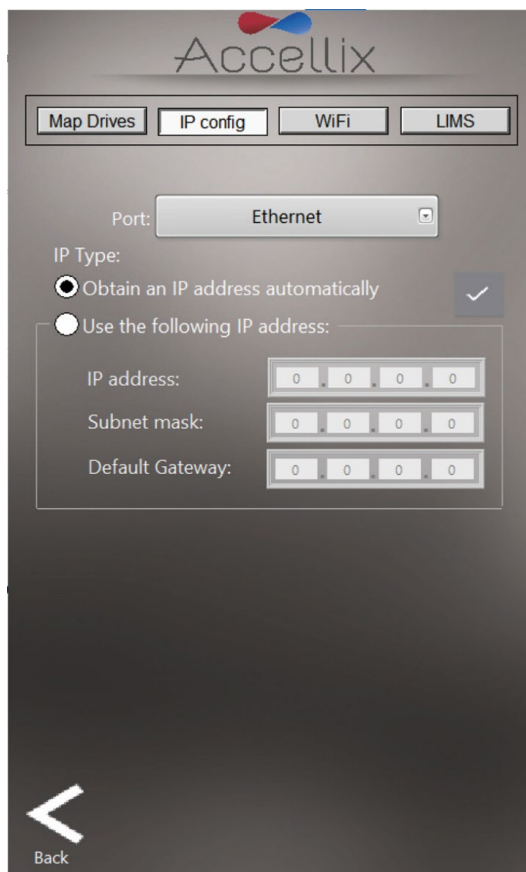

Figure 27: Network Screen: IP Config tab
2. The IP Config tab (Figure 27) allows the TCP/IP address for either of the Accellix instruments' two Ethernet ports to be configured dynamically or with a static IP address. To set a static IP: